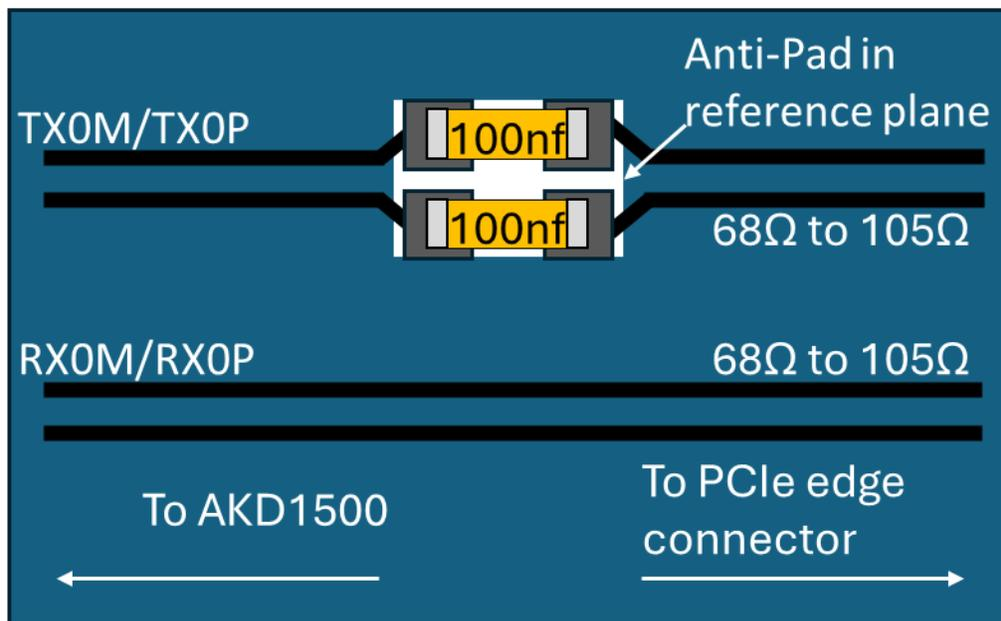

Figure 19: PCIe lane routing
- Coupling caps on the p and n legs of the TX lanes should be 100nF and 0201 form factor. The coupling caps should be side-by-side in line with the differential lane routes. See Figure 19: PCIe lane routing.
- We recommend that the TX lane coupling caps have an anti-pad in their reference plane. See Figure 19: PCIe lane routing.